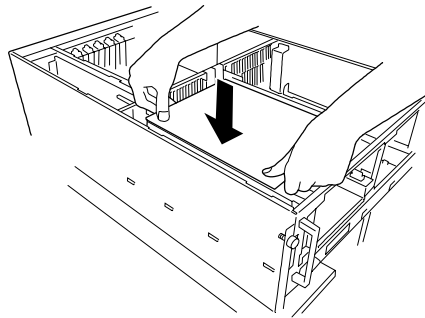

Figure 4-26. Aligning CPU box with its System Baseboard Socket
21. Install CPU box 1 and CPU box 2 into their respective sockets on the system baseboard (see Figure 1-6). To install CPU boxes firmly hold the CPU box and insert it into the appropriate processor socket on the system baseboard between the CPU box guard rails and guides previously installed in steps 10 and 11 above. See Figure 4-26 to align the CPU box with its system baseboard socket.